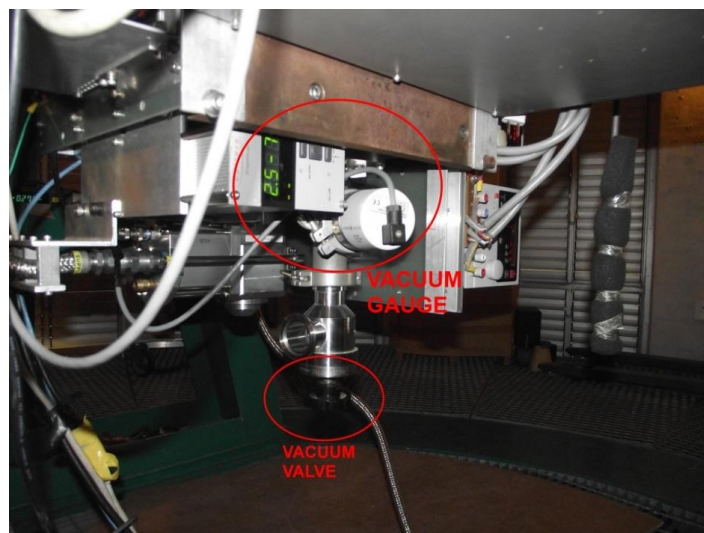

Figure 1: Instrument Vacuum Valve and Vacuum gauge
6. **Open the instrument vacuum valve** (See Figure 1) slowly to allow air to flow into the cryostat – as slow as you can make it, especially at first.
5. Open the instrument valve (See figure 1). It should be open already.